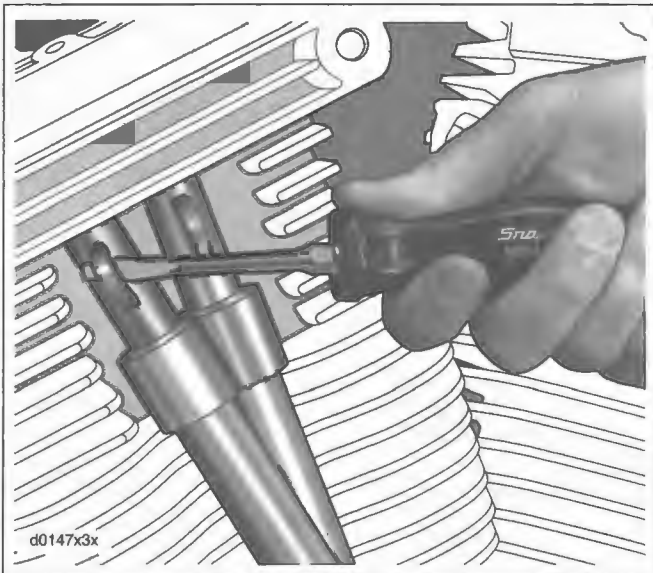

Figure 3-18. Removing Spring Cap Retainer
1. See Figure 3-18. Insert the blade of a small screwdriver into cast loop of spring cap retainer (at top of upper push rod cover). While pushing down on spring cap, rotate bottom of screwdriver toward outboard side to remove. Repeat step on second push rod cover.